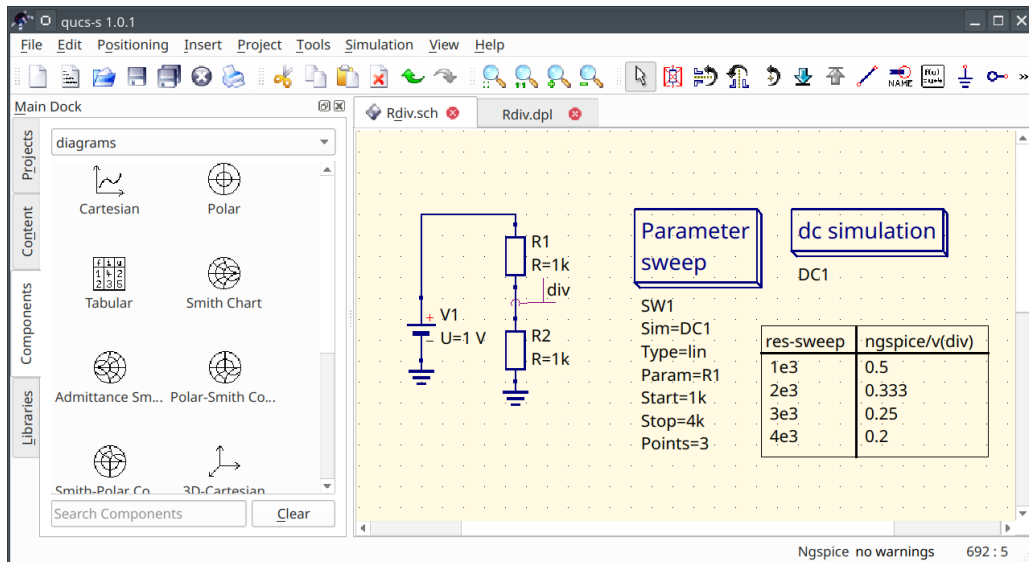

Figure 12: Using DC sweep to get table output of the resistive divider voltage
- DC sweep mode. You need to insert *Parameter sweep* simulation component and attach it to the DC simulation. This simulation mode could be used for plotting IV-curves or getting table output. See the Fig. 12 for example of this simulation.